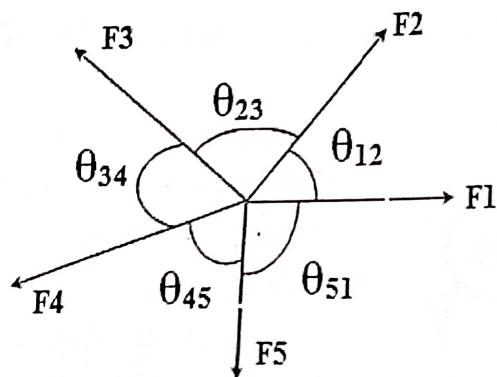

Figure 5: Angular position of five chords on force table
Step 5: Note down applied mass and with its angular position of all locations in table and in pictorial diagram shown in fig 5.
Record the data in the FBD as shown below in figure 5.